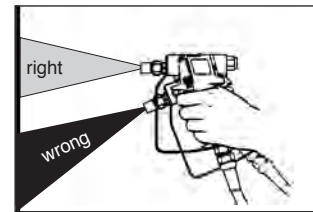

Fig. 37: Spray angle
- Hold the spray gun at a right angle (90°) to the area to be coated. If the spray gun is held at a different angle, the coating becomes irregular and blotchy (Fig. 37).